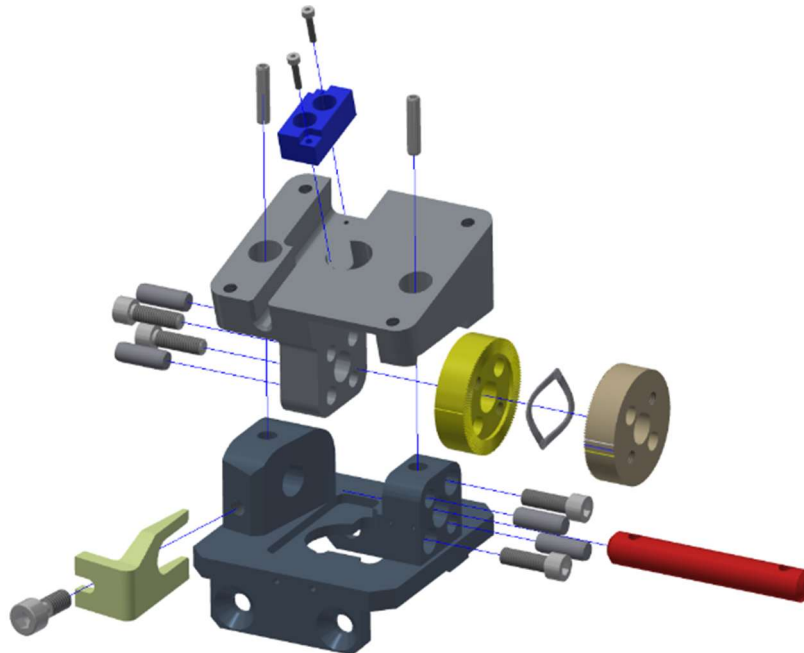

Figure 6-47. Neck posture adjustment assembly components
- 6.3.16 Assemble the Neck Posture Adjustment Assembly (474-3050) (Figure 6-47)